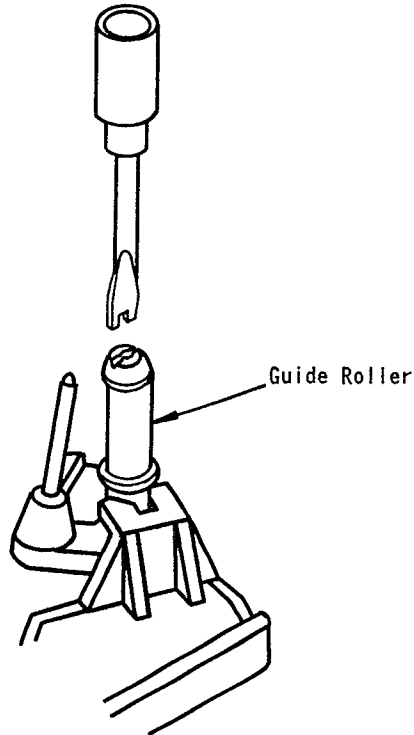
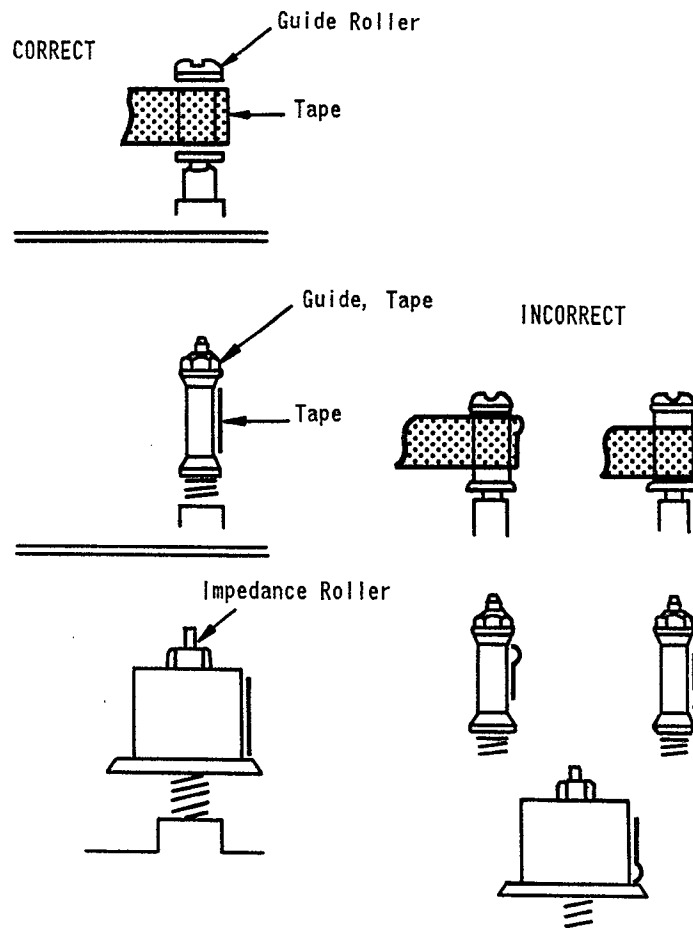

Fig. 5-5
Fig. 5-3
7. Next, adjust the guide roller height. Insert the adjustment driver (FSJ-0001) into the guide roller top (Refer to Fig. 5-5). Adjust the height by turning the driver slightly so that the tape runs on the guide roller as shown in Fig. 5-3, and the lower edge of the tape runs along the lead surface of the cylinder.
- During loading, play and unloading, observe the tape at the supply and take-up guide rollers, tape guide and impedance roller. Confirm that there is no curling or creasing etc., as shown in Fig. 5-3.